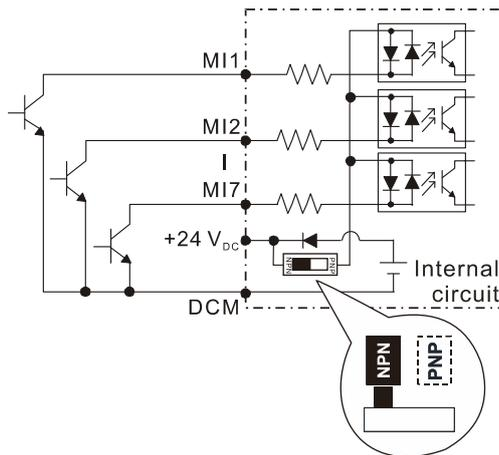
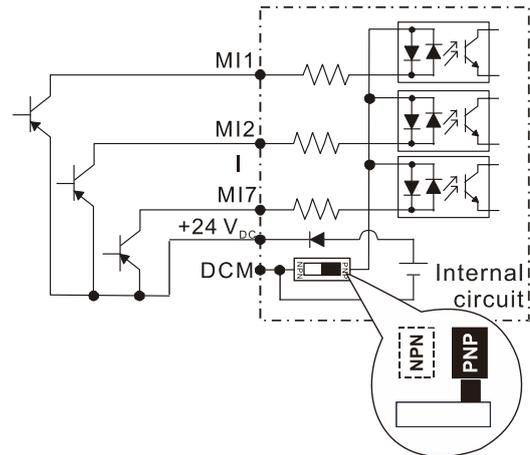

Figure 6-2
Figure 6-3
- When the photocoupler uses internal power supply, the switch connection for Sink and Source modes shows as Figure 6-2 and Figure 6-3: MI-DCM: Sink mode, MI-+24V: Source mode.